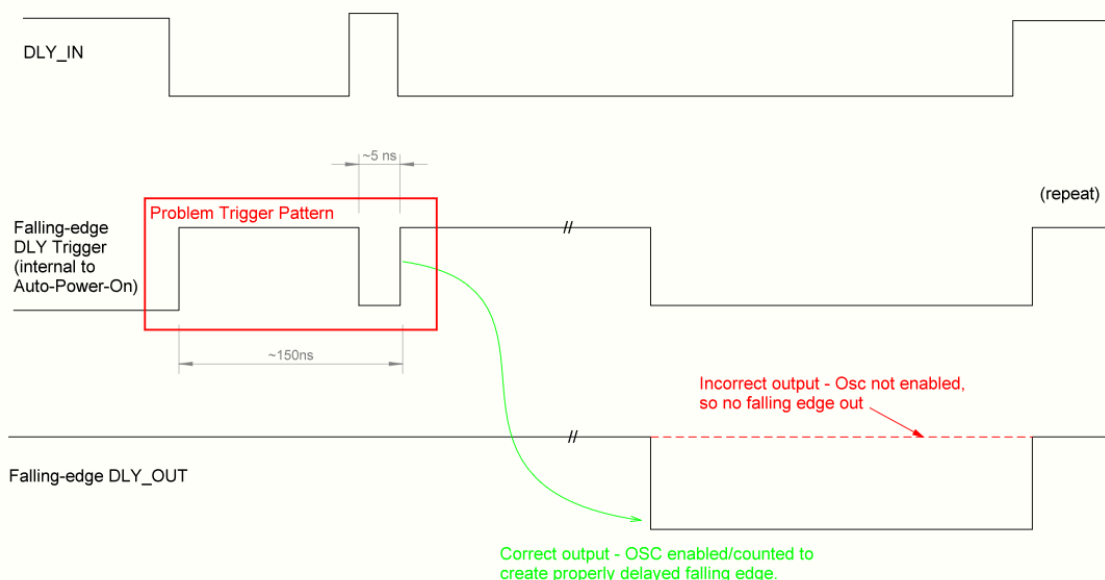

Figure 1: Problem Trigger Pattern
- OR of OSC trigger signals from all DLYs clocked by same OSC together form a long+short glitch pattern with precise (ns) timings as shown in Figure 1.
For this chip, the Auto Power On circuitry of the 25 kHz/2 MHz generators contains a circuit errata, which can potentially fail to power on the OSC for a specific pattern and timing of the OR of all related DLY trigger signals. The pattern is shown in Figure 1 (boxed in red) and consists of a relatively longer pulse (~145 ns) followed by a shorter (~5 ns) glitch of opposite polarity.